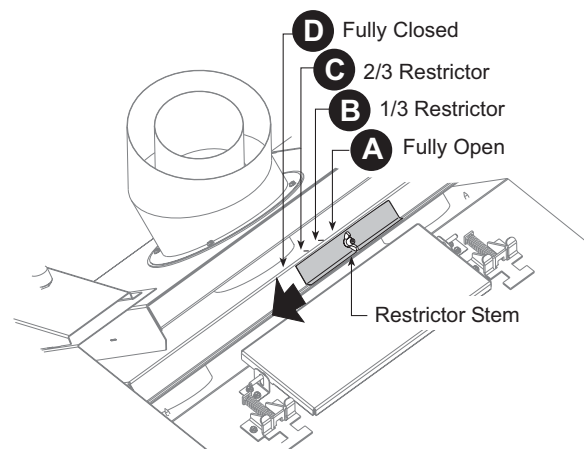
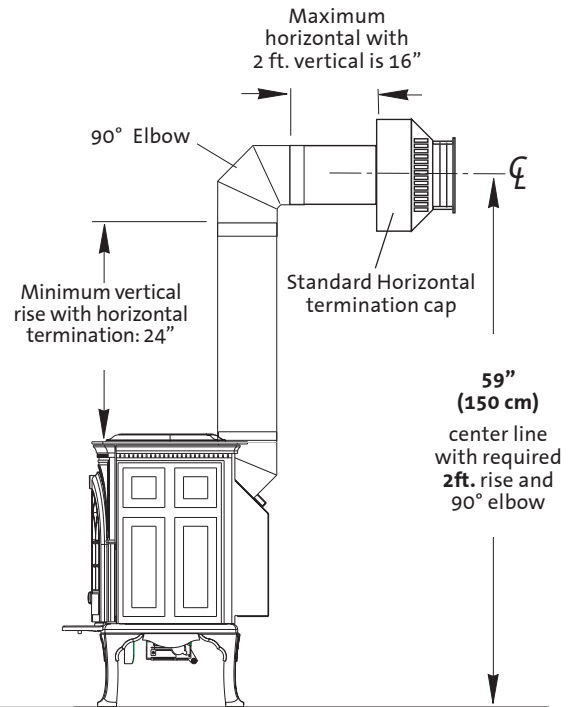

Figure 5. Exhaust Restriction adjustment; slide shutter stem to left to increase restriction.
Figure 10. A vertical run in a horizontal termination must be at least 2 feet (61 cm).
The GF 600 DV II Firelight features a sliding shutter that allows exhaust vent restriction adjustment from outside the firebox. See fig. 5. **The shutter is set in the fully open position (A) at the factory.** The final position of the restriction shutter is determined by your individual vent configuration as indicated in fig. 10 on page 11. Further fine tuning can be made to compensate for draft characteristics that would otherwise interfere with proper burner performance such as low heat output, weak flame picture, or inefficient combustion.
2. Loosen the wingnut on the Restrictor Stem and push it to the left to align with the hash marks on the exhaust manifold that correspond with the appropriate setting, (B, C, or D). See figs 5 and 9.
- **Minimum vertical rise** from the top exit position is a **24"** section vent pipe. See fig. 10.